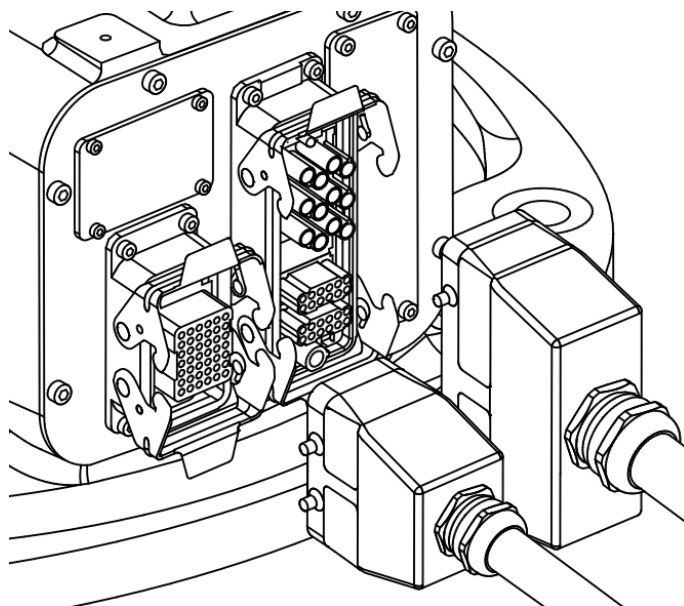

Figure 5-3 Manipulator heavy-load line connection interface
Step1. Insert one end of the power cable and the encoder plug into the corresponding connection port of the heavy-duty cable of the manipulator (see Figure 5-3), and tighten the lock.